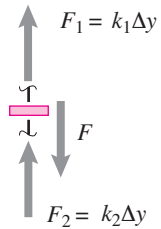

Figure 7.12: Free-body diagram of joint A.
- **Case (a):** The free-body diagram of point A is shown in Fig. 7.12. As point A is displaced downwards by Δy , spring 1 gets stretched by Δy whereas spring 2 gets compressed by Δy . Therefore, the forces applied by the two springs, $k_1 \Delta y$ and $k_2 \Delta y$, are in the same direction. Then, the force balance in the vertical direction, $\mathbf{j} \cdot (\sum \vec{F} = \vec{0})$, gives: